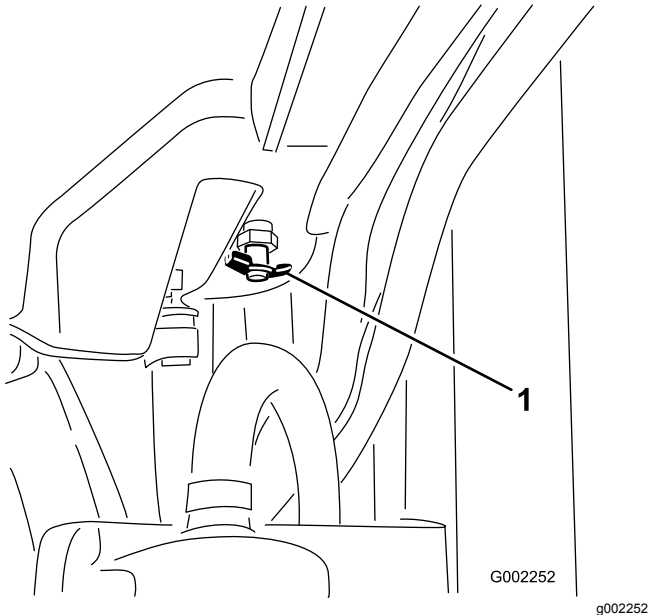

Figure 56
4. Open the drain (Figure 56) and drain the coolant into the pan.